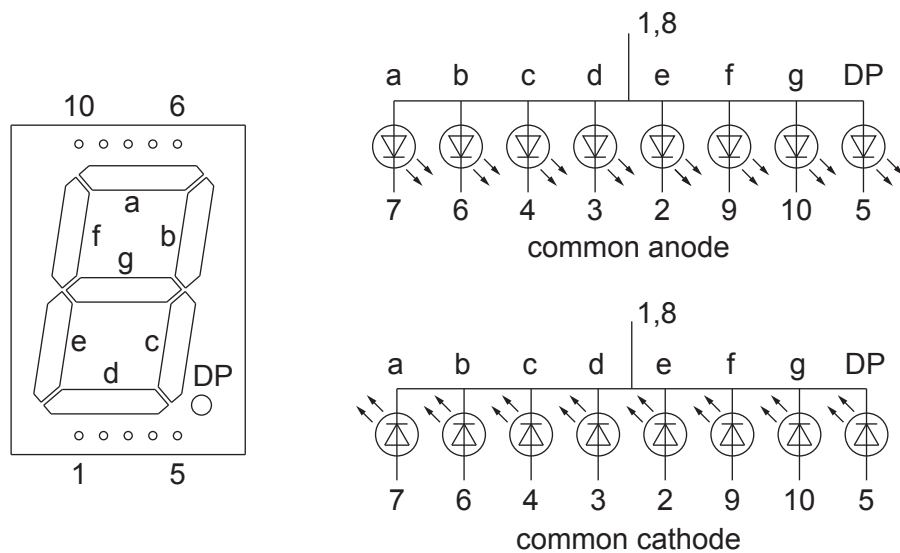

Fig. 12.3
- (b) Fig. 12.3 shows details of a seven segment display taken from a catalogue.
- (i) Shade the segments on Fig. 12.3 that will be lit to display the number '2'.